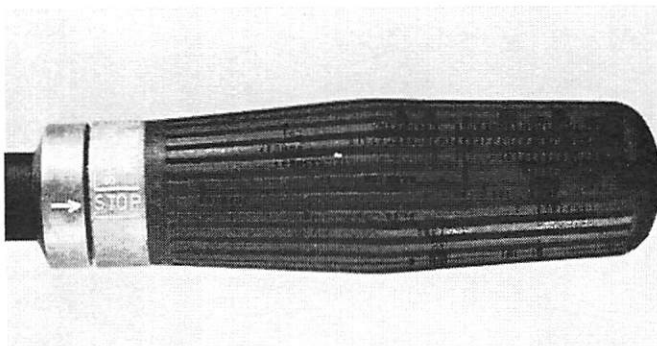

Figure 7. Handle Grip Position
9. Turn handle grip clockwise until grip stops. Markings on grip indicator and mark on tube will be positioned as shown in Figure 7.